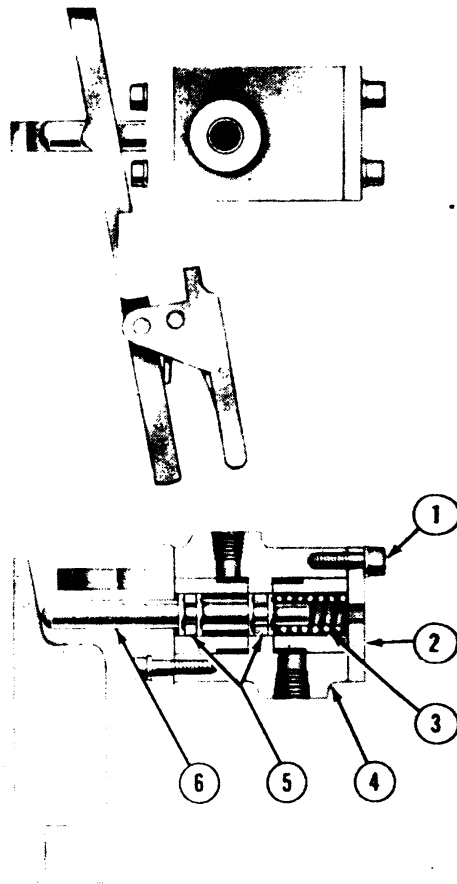

Figure 55—Pilot valve (sectional view).
(1) The function of the pilot valve (figs. 55 and 56) is to supply air to operate the main control valve. The pilot valve is actuated by a special solenoid switch operated by the main fuel firing button (or mechanical emergency fuel firing pedal in case of solenoid failure). The pilot valve consists of a valve body, cylindrical perforated liners, and valve body covers, together with a pilot valve piston, sealing rings, and pilot valve spring. The whole unit, including solenoid, is bolted to a special bracket located forward in the turret to the left of the power traverse equipment.
(2) Into each end of the valve body is press-fitted a brass liner (not removable) which is machined to provide an annular space between liner and body. The two separate spaces so formed are each directly connected to a threaded opening in the valve body, one being the air inlet and the other the air outlet. A ring of holes drilled in each liner connects the annular spaces individually with the interior of the valve. Two piston flanges, which carry "O" rubber sealing rings, are spaced about 1/2-inch apart on the piston stem. The pilot valve spring is located between the forward piston flange and the valve body cover. A hole is drilled in the forward valve body cover to form an air vent. When the valve is closed, the spring holds the piston in the rearward position and the forward piston flange is located between the inlet and outlet ring of holes drilled in the liners. Thus, no air can flow between the two sets of holes. When the valve is forced open by the action of the solenoid or of the emergency fuel firing pedal, the piston moves forward and the piston flanges bracket the two sets of holes, allowing air to flow through the valve from the inlet to outlet ports. When the main fuel firing button is released, the piston is returned to the rear position by the pilot valve spring, while the air under pressure, on the outlet side of the valve to the main control valve actuating air chamber, vents through the hole in the valve body cover (fig. 55).
Legend for Figures 55 and 56